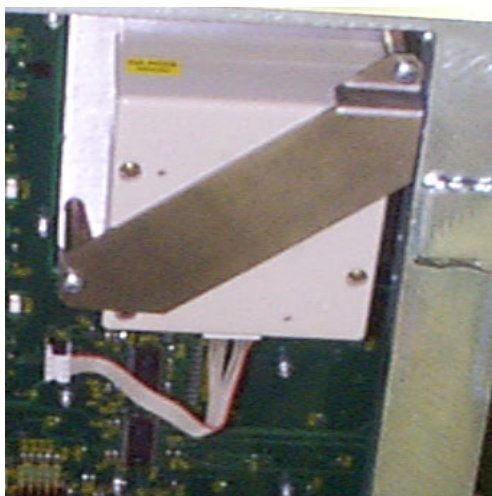

Figure 8-30 Trackball Removal
- 8) Disconnect the trackball cable from the trackball unit - see Figure 8-30 below.